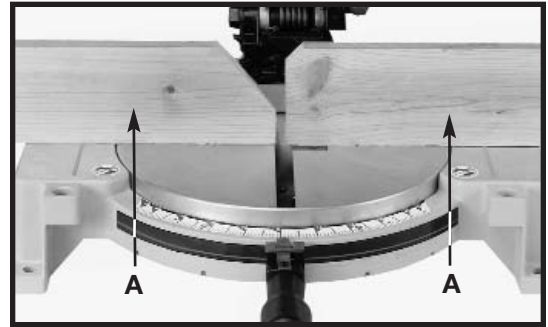

Fig. 23
Holes are provided in the fence to attach an auxiliary fence (A) Fig. 23. This auxiliary fence is constructed of straight wood approximately 1/2" thick by 3" high by 20" long.